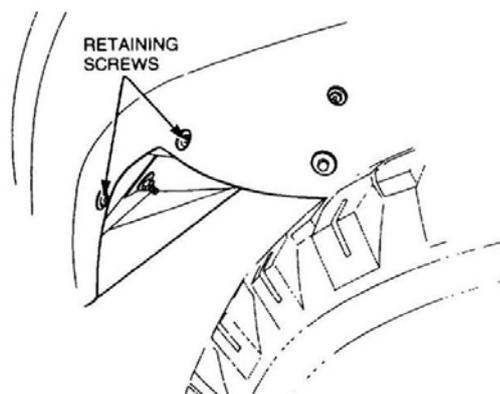

Figure 157 Removal of the Mudguard-to-toe Board Bracket
- o.** Remove the two screws and washers securing the inner guard to the toe board bracket (Figure 157).